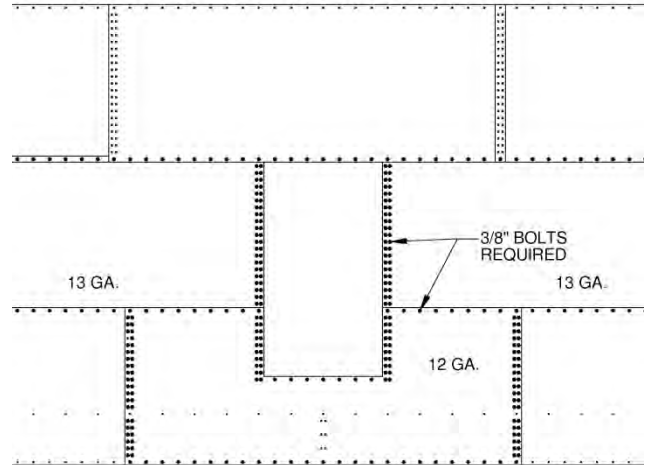

Fig. 9
**NOTE:** Use 3/8 x 1" bolts on horizontal seams where 13ga and 12ga panels overlap, and on sidewall panels connected to door frame. This will include short sheets on either side of 44" and 66" doors, as well as 66" door cutout sheet. See Fig. 9.
**NOTE:** If erecting a hopper bin that doesn't have a door, disregard Fig. 9 and door references in preceding two paragraphs. Refer to hopper section of Hopper Bin manual for instructions on how to attach hopper bottom to bin.